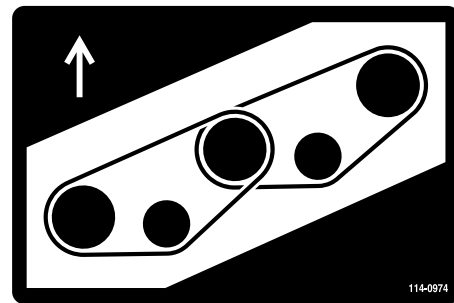
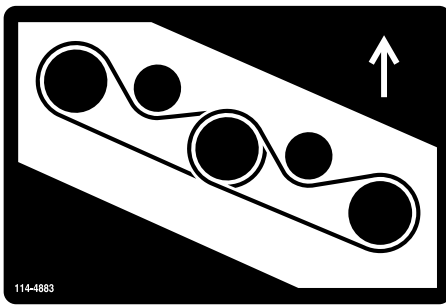

Figure 84
Figure 85
5. Route the new belt around the spindle pulleys and idler pulley assembly as shown in Figure 84 and Figure 85.